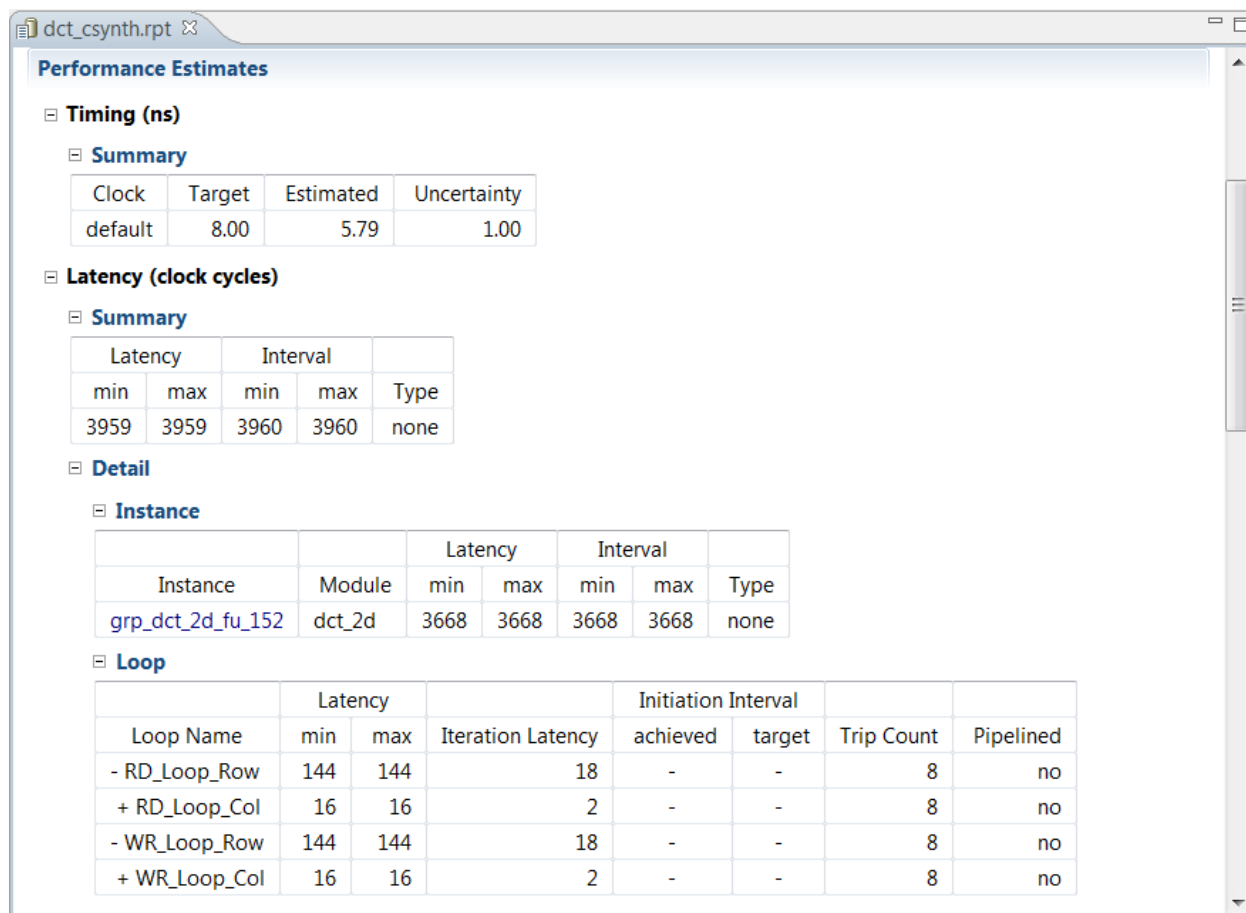

Figure 110: Report for initial DCT Design
When synthesis completes, the synthesis report opens automatically. **Figure 110** shows the performance section of the report.
Figure 110 highlights the following information.
- The loops in the read_data and write_data functions are therefore implemented at the top level and are reported as loops in the top-level function (**Figure 110**).